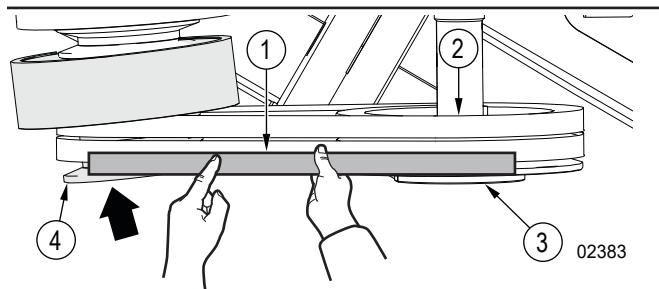

Figure 43—Align the engine clutch
- If the edge of the engine clutch flywheel is not parallel (is on an angle) to the straight-edge tool, align the engine clutch. See *Figure 43* on page 60.